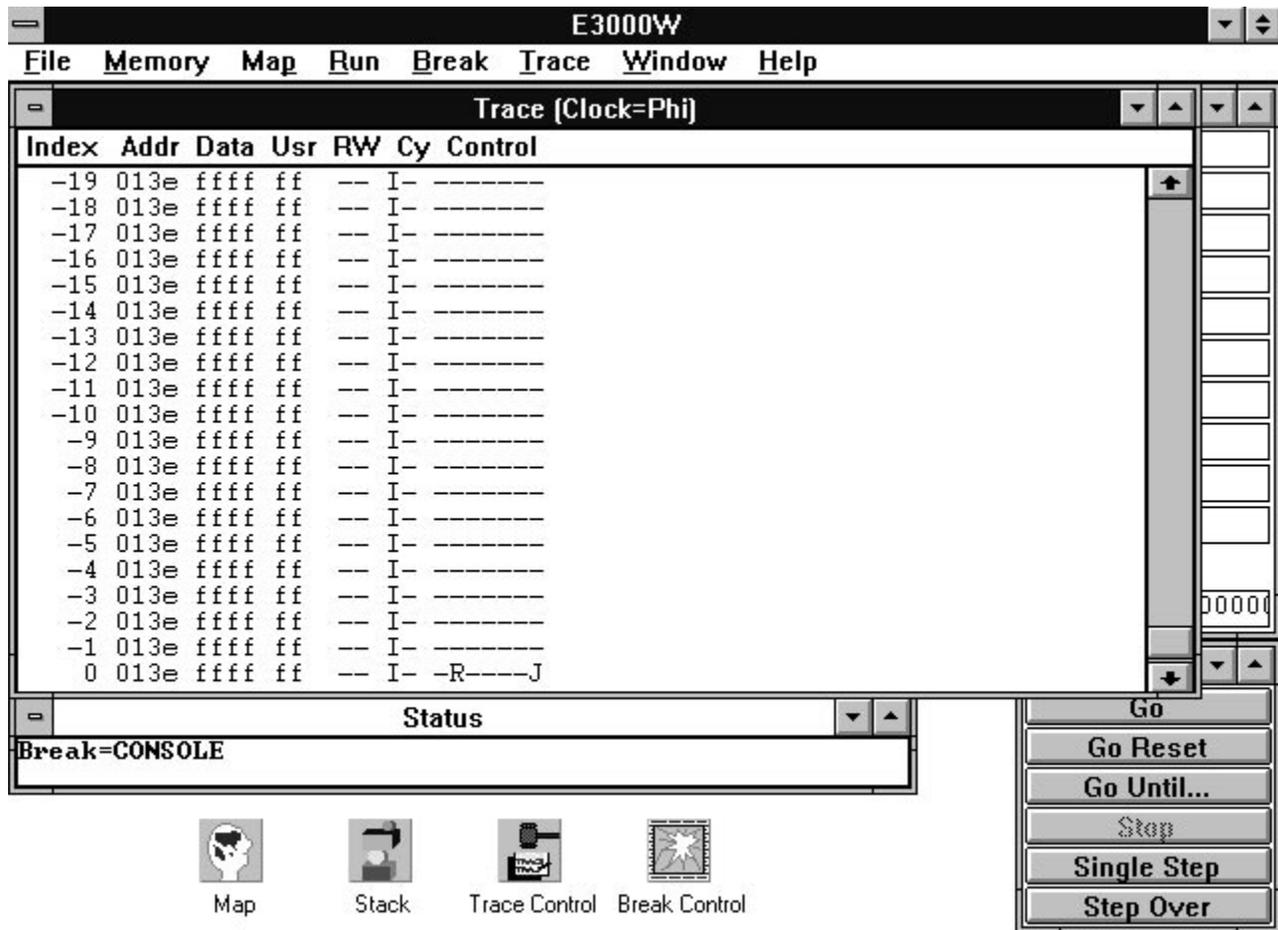

Figure 22.
6. An **access (CY)** column indicating the type of access (internal, external, EEPROM, or no EEPROM).
If the ϕ trace clock option is used, machine cycles are recorded into the trace buffer memory as well, and the trace display does not contain the symbol and disassembly columns, but a **control** column instead (see Figure 22). This column has 7 entry flags that indicate (from left to right): evaluation chip wait state (W), opcode fetch (R), opcode decode (D), interrupt acknowledge (I), external 3-state access or internal 2-state access (3/2), branch not taken flag (B), and any type of jump taken (J).